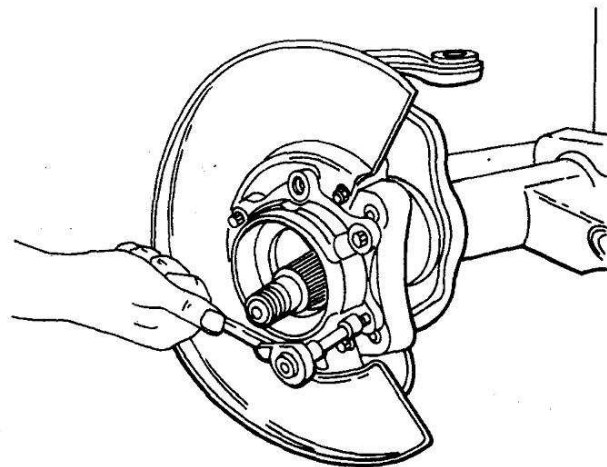

Figure 2-61.1. Removing Retainer.
(8) Remove the six retainer bolts (figure 2-61.1).